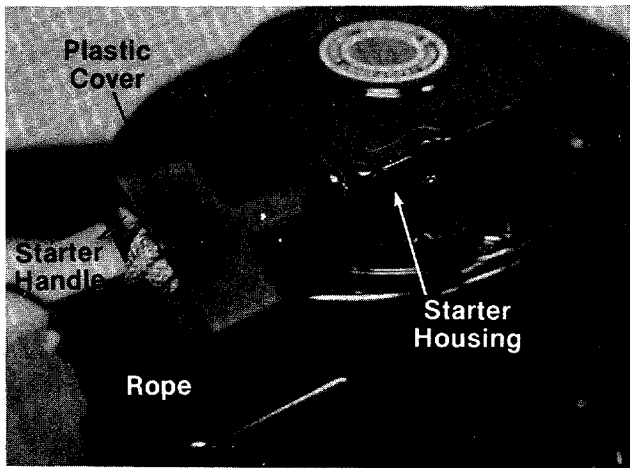

FIGURE 10.
14. The starter rope and handle may be secured with a plastic cover for shipping purposes. Remove the plastic cover and discard. See figure 10.